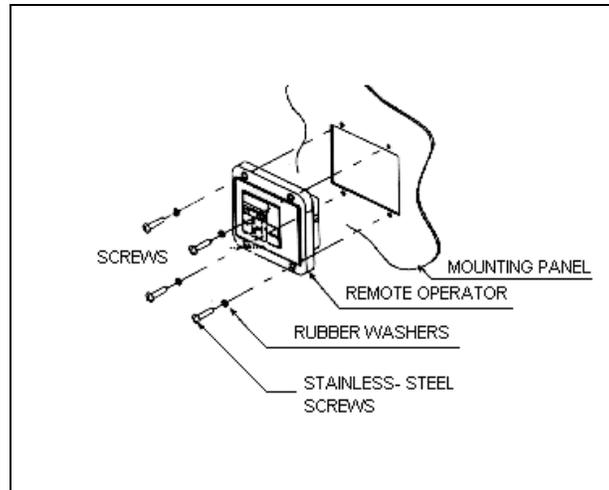

Figure 2: Surface Mount Installation
10. Finish the surface mount by installing the remote operator on the front side of the panel. Insert a rubber washer on each screw and then insert the screws through the front side of the panel. Four washers and four nuts are not needed in this application. Tighten screws gradually by hand to prevent damaging the rubber washers. See Figure 2.